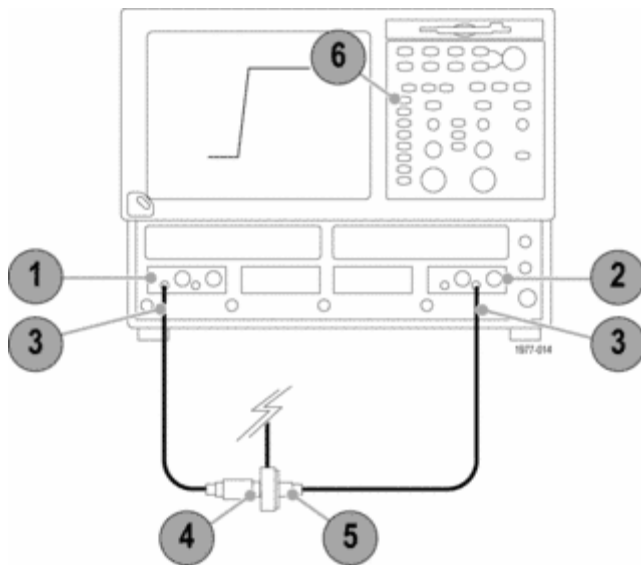

Figure 11: Test system rise time setup
1. Connect the 80E04 sampling head to Channel 1 of the sampling oscilloscope. (See Figure 11.)
11. Adjust the oscilloscope horizontal and vertical position controls to display a signal similar to that shown. (See Figure 11.)